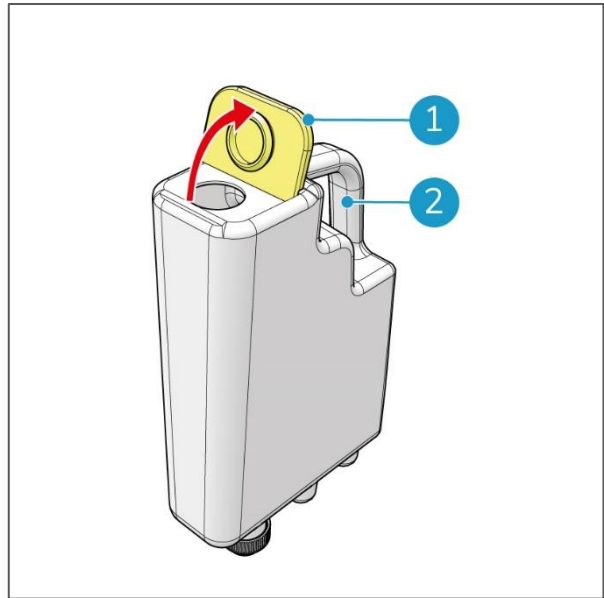

Figure 59
1. Remove the detergent tank by the handle (Figure 59, pos 2) and put it on a level surface.
2. Open the yellow filler cap (Figure 59, pos 1).